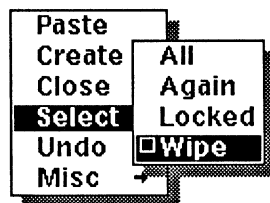

Figure 19-11. Select Wipe command
- ✓ Choose **Wipe** from the **Select** submenu (Figure 19-11).